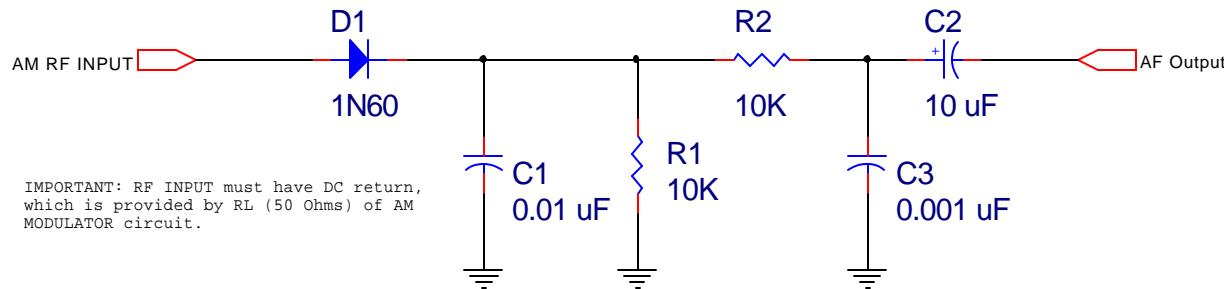

Figure 3: AM Diode Detector Circuit
Capacitor C2 serves as a *DC block*. There was no DC in the original information signal, and although the diode detector produces a rectified DC component, it is not needed. Figure 3 shows the actual detector circuit you'll use in this experiment. It contains additional filtering to further smooth the recovered envelope shape. This filtering is provided by R2 and C3.
1. Build the circuit of Figure 3. *Note: The 1N60 is a relatively large diode with a clear glass envelope and a black or red cathode stripe.*